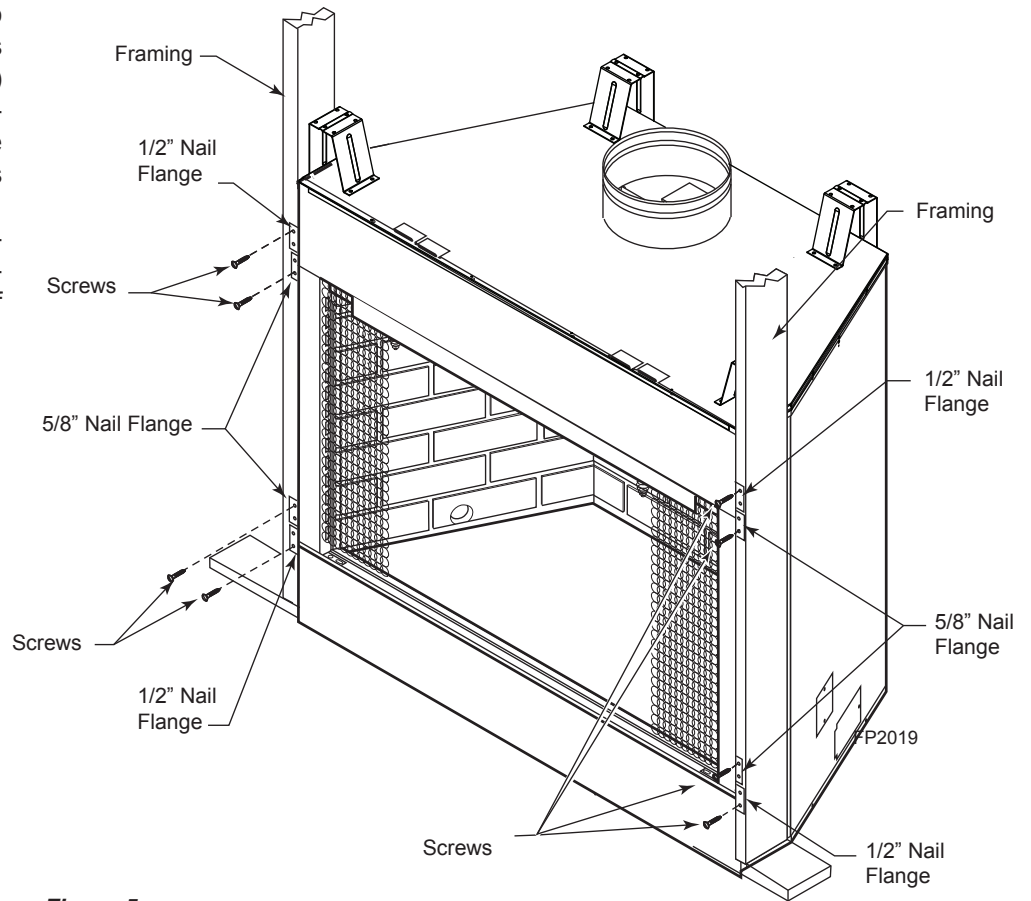

Figure 5 -
The fireplace must be secured to the floor and/or to framing studs as shown in *Figure 5*. Use two (2) wood screws or masonry/concrete screws to secure fireplace to the floor. Use four (4) screws to attach fireplace to framing. The side brackets are adjustable from 1/2" to 5/8" to accommodate different thicknesses of material.